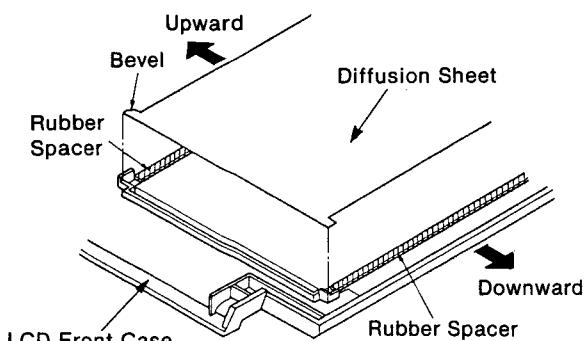

Figure 34
- (2) Put the diffusion sheet on the LCD unit as shown in Figure 34.
2. Be sure not to place the diffusion sheet on the rubber spacers as shown in Figure 34.